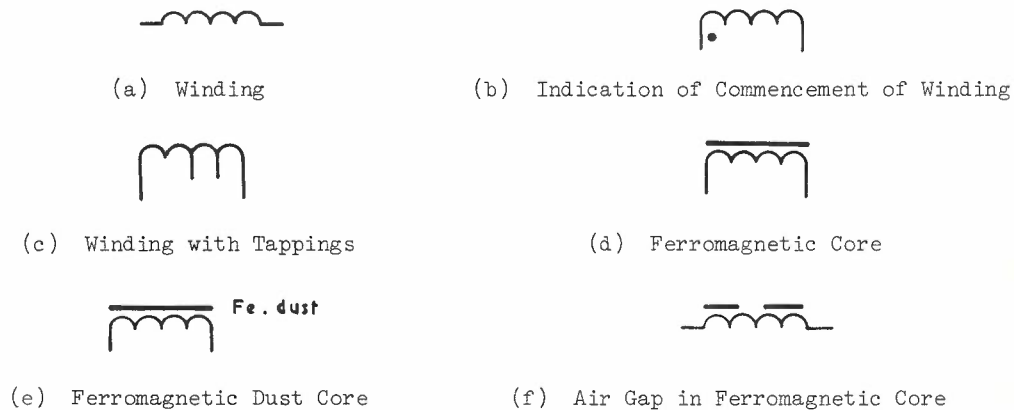

FIG. 23. GENERAL WINDING AND CORE SYMBOLS.
5.2 SYMBOLS. Fig. 23 shows general symbols for windings and cores. The symbols for inductors and transformers are normally adaptations of these, as is shown in Figs. 24 and 25.